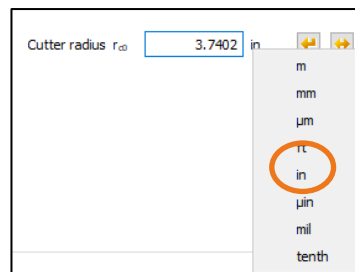

Figure 15. Switching the unit to «inch»
7. In the «Manufacturing» tab, select «Face milling (single indexing method)» as the manufacturing process and then input the «Cutter radius». We recommend you use the sizing function  to the right of the «Cutter radius» input field to get a suggested value for the minimum cutter tip size (in accordance with Klingelberg «Bevel gears», page 70) and then enter the cutter tip radius that was actually used, from Production. Click the right-hand mouse button to select the unit «inch»: this is usually used for Gleason cutters (see Figure 15).